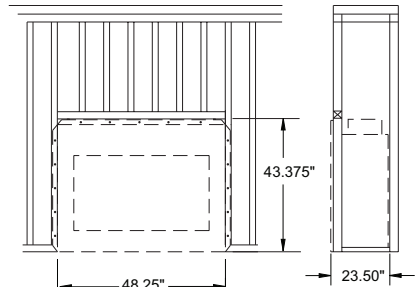

Figure 1 - Framing Dimensions
1. The location must allow for proper clearances (see Figures 1 and 2).
1. Frame opening for the fireplace using dimensions shown in Figures 1 and 2.